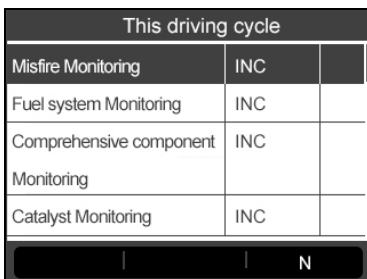

Figure 6.16
- 5) If the vehicle supports readiness test of “**This Drive Cycle**”, a screen of the following displays: (Figure 6.16)